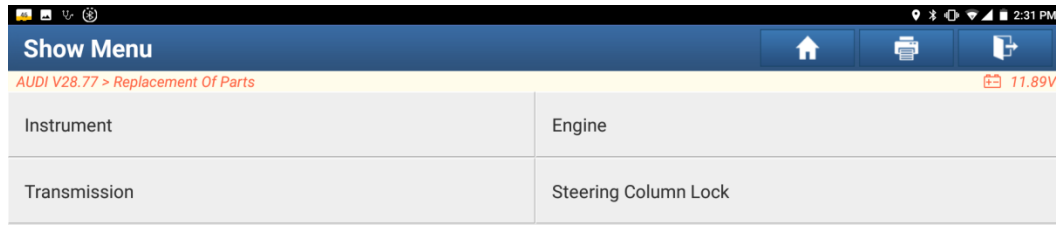

Figure 10
9. Exit engine function and enter **【MQB Instrument】** -> **【Replacement Of Parts】** -> **【Engine】** , as shown in Figure 10;